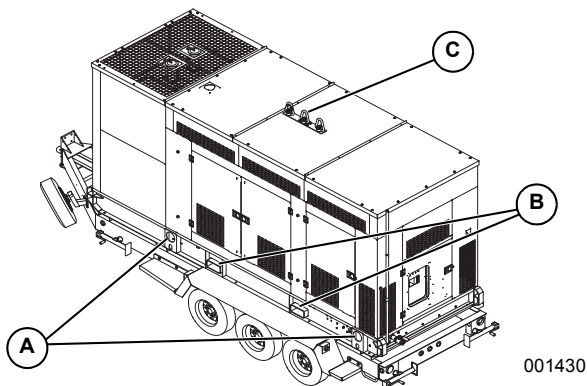

Figure 2-9. Lifting Points
Units are often lifted during times of repair, and therefore the lifting operator must be aware of any changes that may affect the center of gravity (CG), including, but not limited to, removal and addition of system components such as engine or generator. Installation drawings show the lifting points and the CG location for rigging and lifting purposes. Always attach lifting and rigging devices at the designated points on the generator set. Do not use the lifting points of the engine or alternator to lift the unit. See **Figure 2-9**.